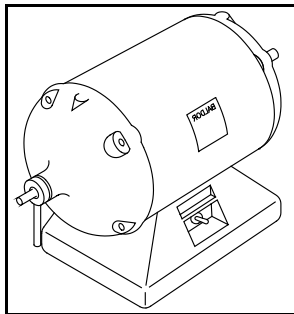
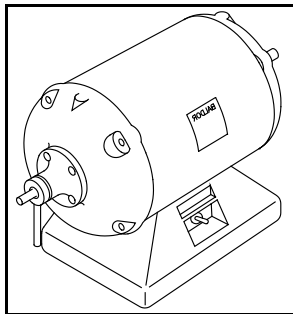

Figure 3.
Figure 4.
- 3.1 If you have a lathe with a chuck ejector similar to the one pictured in Figure 3, you must replace the whole end plate using a Q237 or Q239 adapter. Go to section 8.0, REPLACE THE END PLATE, before continuing. If you have the removable ejector assembly pictured in Figure 4, you may continue to the next step.